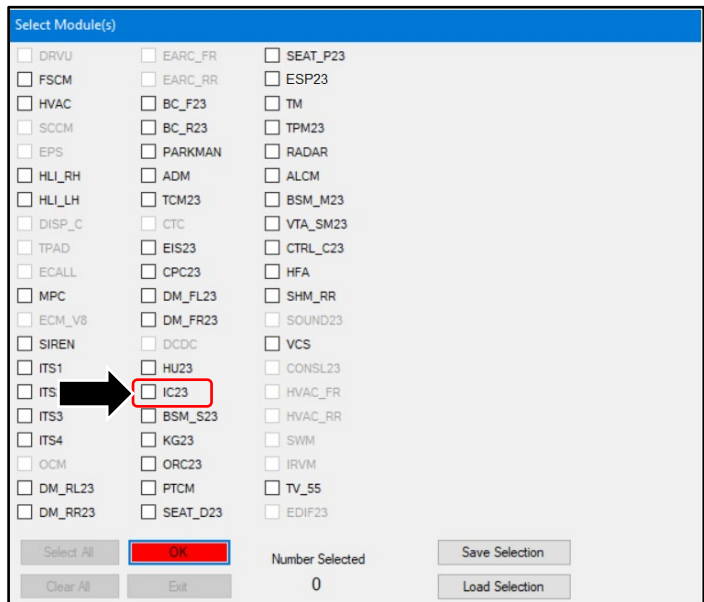

Figure 3
6. Select the "IC23" module then click the "OK" button (refer to Figure 3).